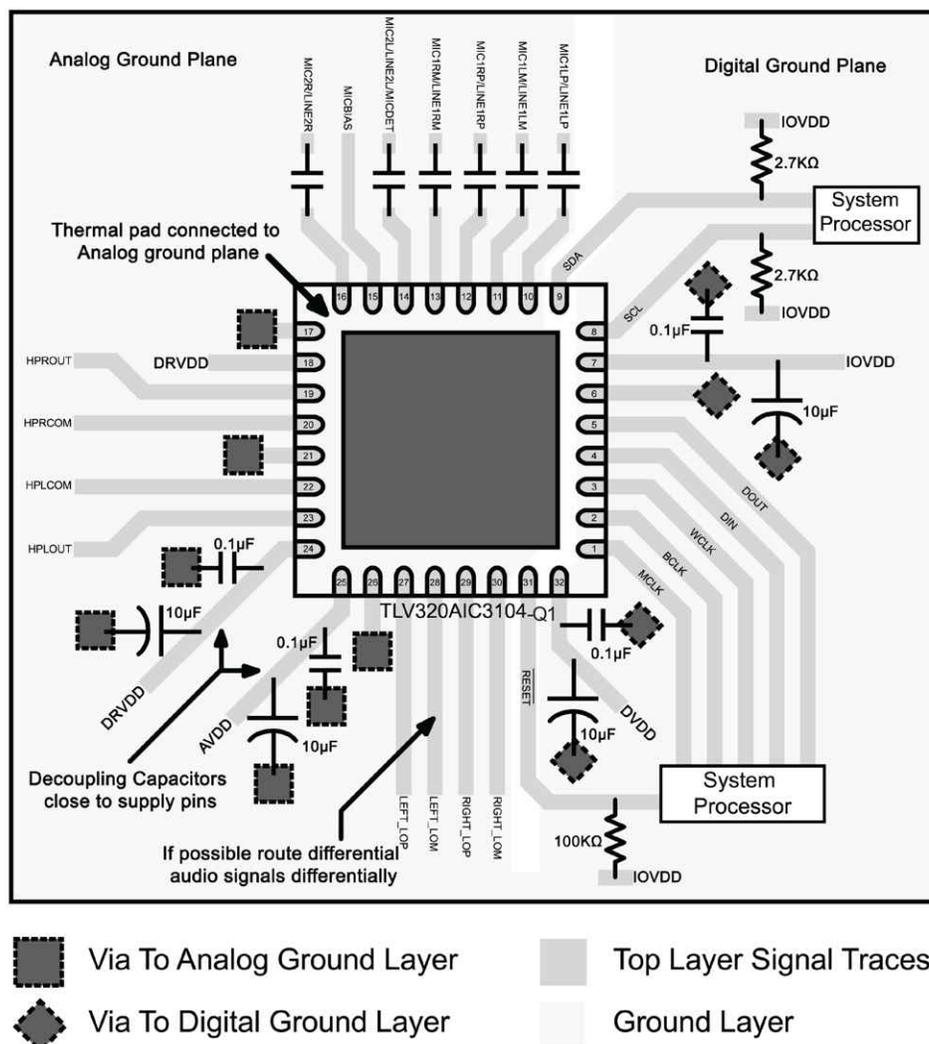

图 12-1. Layout Example
- Following the recommended component placement, schematic layout and routing given in 图 12-1, integrate the device and its supporting components into the system PCB file.